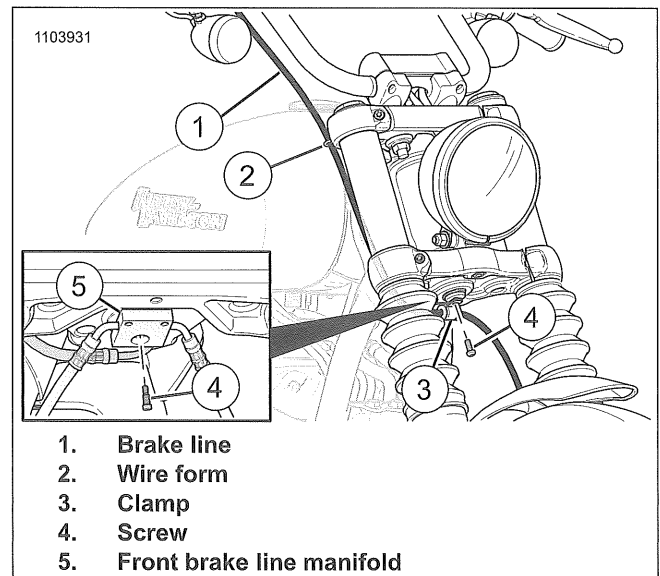

Figure 3-52. Front Brake Line: Single and Dual Front Caliper (Non ABS)
3. See Figure 3-52. Remove brake line.
- a. Remove brake line from wireform (2).
- c. Remove screw (4).
- e. **Single caliper:** Remove clamp (3) from front brake line.
1. Install brake line (1) to front brake master cylinder. See FRONT BRAKE MASTER CYLINDER (Page 3-35).
2. See Figure 3-52. Install brake line.
- b. **Single caliper:** Install clamp (3) onto front brake line.
- c. **Dual caliper:** Position front brake line manifold (5)
- d. Install screw (4). Tighten.